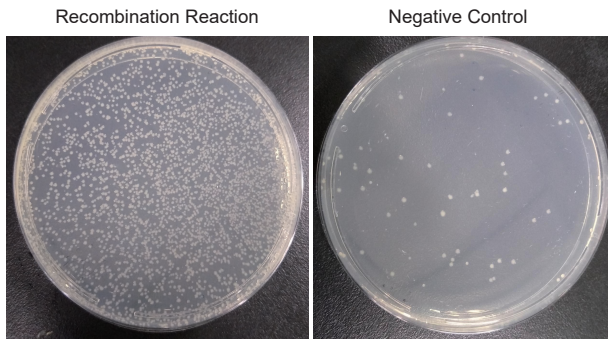

Fig 4. Plates Incubated Overnight
- ◇ After overnight incubation, hundreds of single clones will form on the plate of recombination reaction, whereas fewer of those on the plate of negative control (Fig 4).